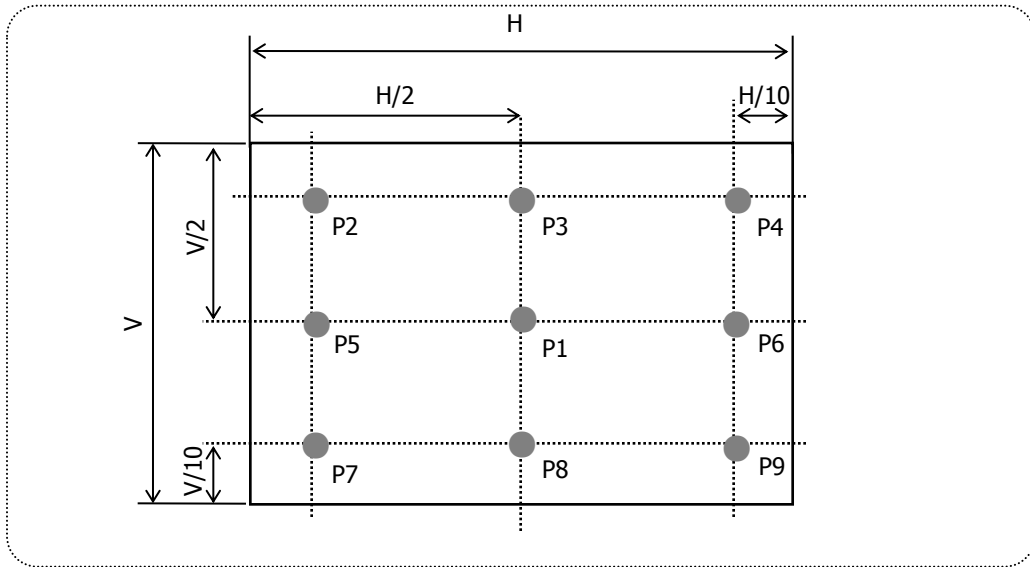

FIG.8 Measure Point for Luminance
2. **Surface luminance(L_{WH})** is luminance value at Center 1 point(P1) across the LCD surface 50cm from the surface with all pixels displaying white. For more information see FIG.8 (By PR880)
For more information see FIG.8